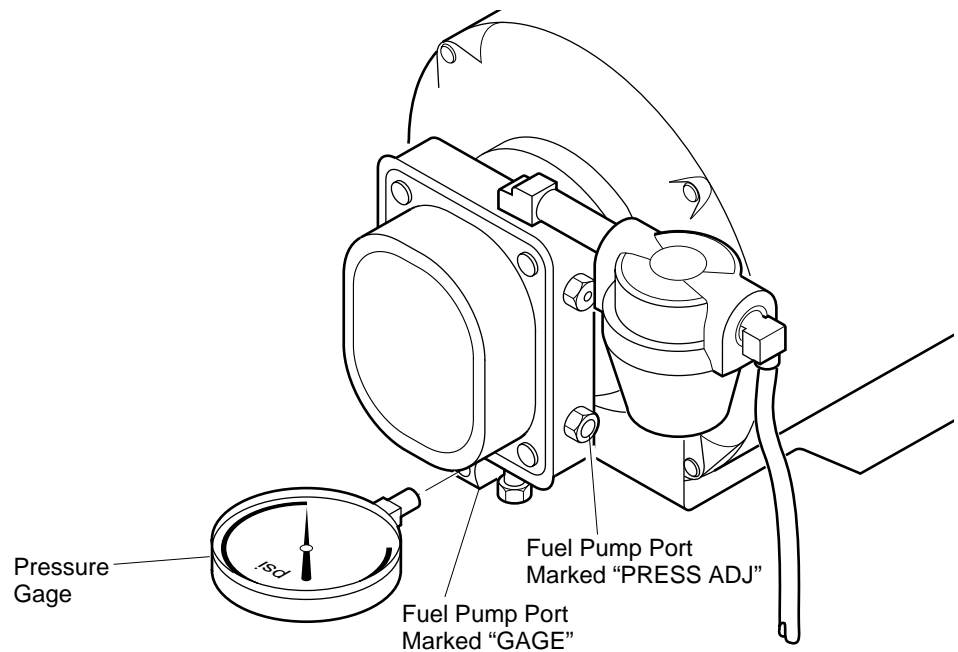

Figure 10 - Adjusting Pump Pressure
2. Install accessory pressure gage (part number M4574) to fuel pump port marked "GAGE" (see Figure 10).